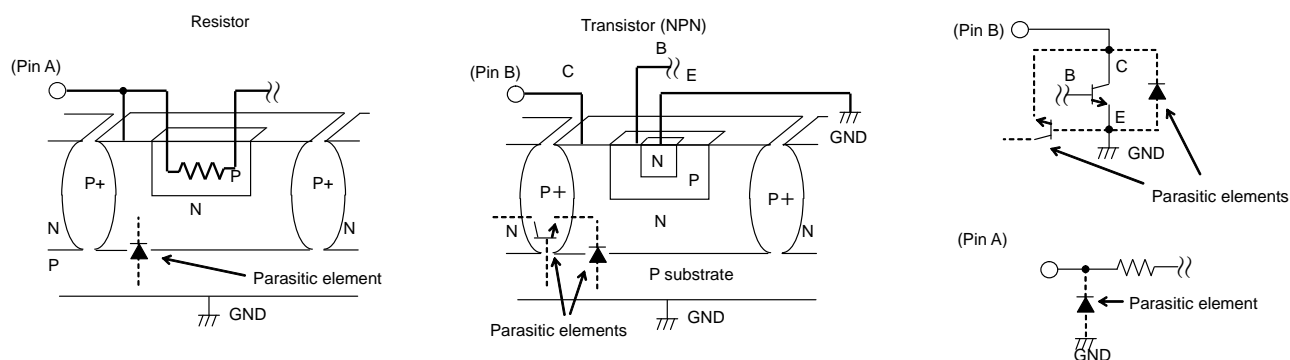

Fig.45 Example of a Simple Monolithic IC Architecture
- 8) This monolithic IC contains P+ isolation and P substrate layers between adjacent elements in order to keep them isolated. P/N junctions are formed at the intersection of these P layers with the N layers of other elements to create a variety of parasitic elements. For example, when the resistors and transistors are connected to the pins as shown in Fig.45, a parasitic diode or a transistor operates by inverting the pin voltage and GND voltage. The formation of parasitic elements as a result of the relationships of the potentials of different pins is an inevitable result of the IC's architecture. The operation of parasitic elements can cause interference with circuit operation as well as IC malfunction and damage. For these reasons, it is necessary to use caution so that the IC is not used in a way that will trigger the operation of parasitic elements, such as the application of voltages lower than the GND (P board) voltage to input and output pins.